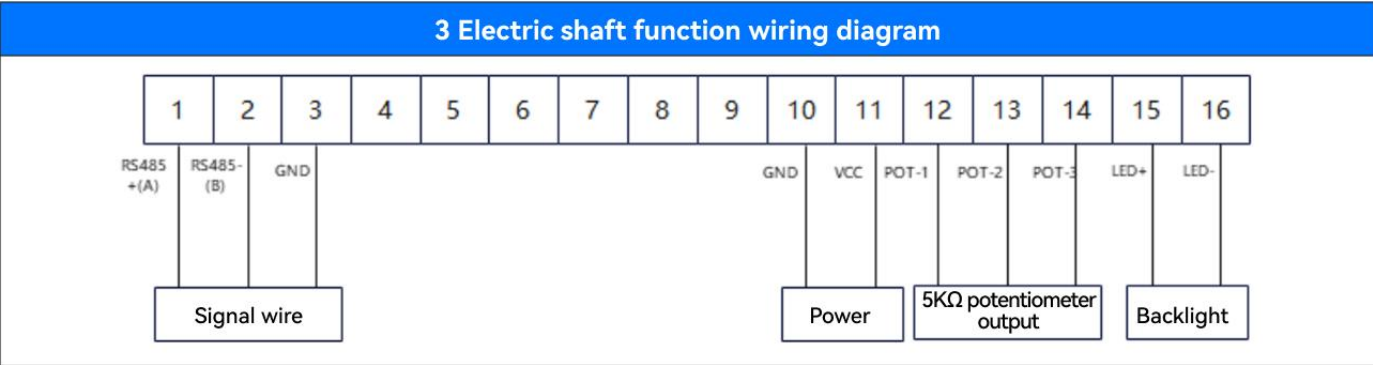

Figure 1.7
3. If the system has the function of electric axes, connect the wires in the following manner, as shown in Figure 1.7 and Table 1.3.